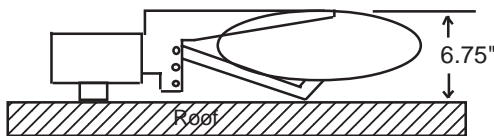

Figure 1
- a. Locate a clear area on roof measuring 34" x 20". (Figs 1 & 2).